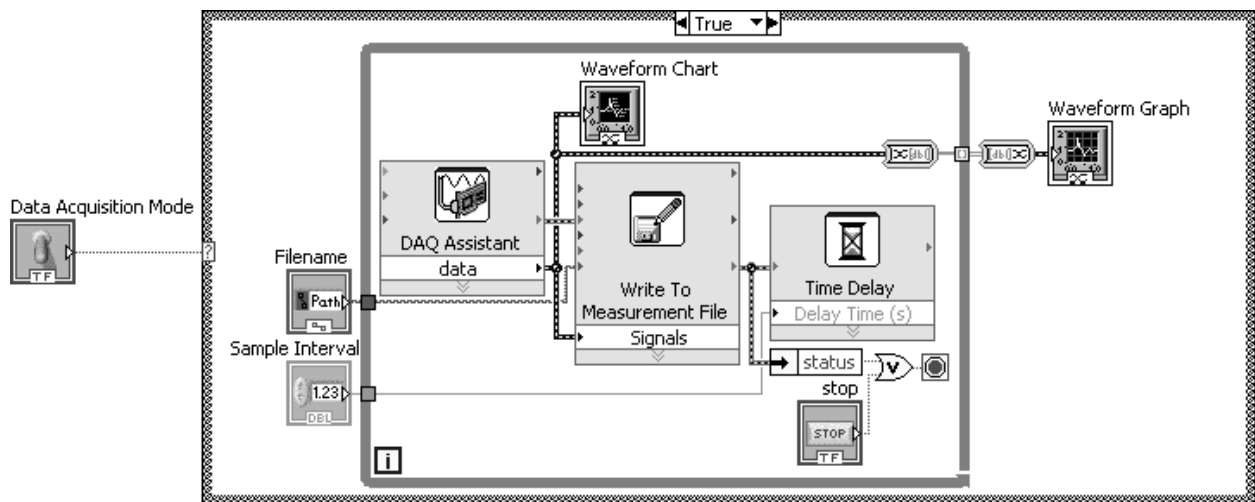

Figure 1.4.1 The general analog input VI showing the option to measure data continuously
4. Develop the software-timed analog input VI shown in Figs. 1.4.1 and 1.4.2, which can acquire either a finite set of measurements or acquire measurements continuously until stopped by the user.
The general analog input VI that is to be developed in this problem is designed to allow the user to select finite or continuous measurement of data. For this VI, the user will provide input through the front panel to select a measurement case for data acquisition: either continuous or finite. A Case Structure (represented by the outermost border in Figs. 1.4.1 and 1.4.2) will be used to determine what case will be executed. When the data acquisition mode is set to “True”, data is taken continuously. Likewise, when the data acquisition mode is set to “False”, a finite set of data is taken. Two cases (True and False) of the same Case Structure are shown in Figs. 1.4.1 and 1.4.2.
4. Resize the Case Structure to be large enough to contain the functions, structures, and VIs shown in Figs. 1.4.1 and 1.4.2.